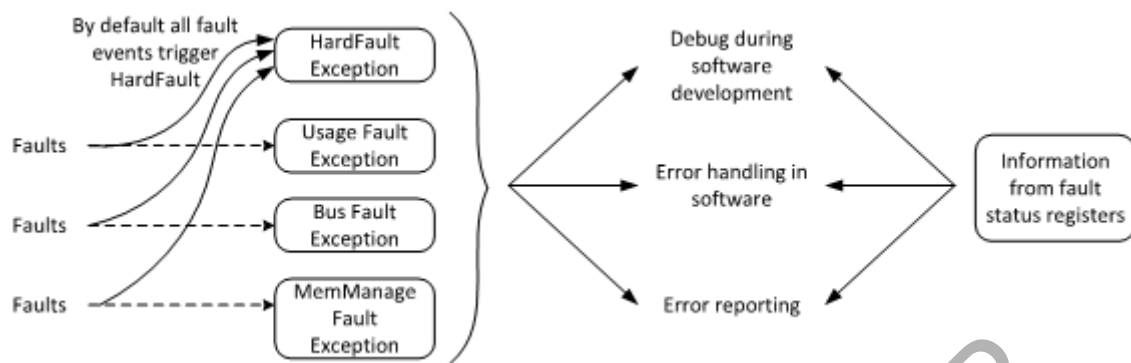

Figure 27: Fault exceptions usages
- The fault exception mechanism allows errors to be detected quickly, and potentially allows the software to carry out remedial actions as shown in figure 27